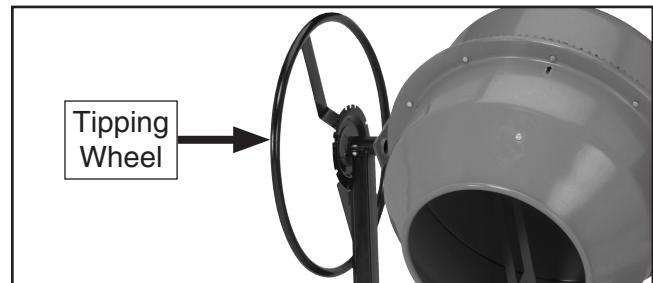

Figure 14. Tipping wheel attached.
12. Attach the tipping wheel to the lower drum pivot bar (**Figure 14**). Use two M8-1.25 x 20 hex bolts on one side and two 8mm flat washers, 8mm lock washers, and M8-1.25 hex nuts on the other side.